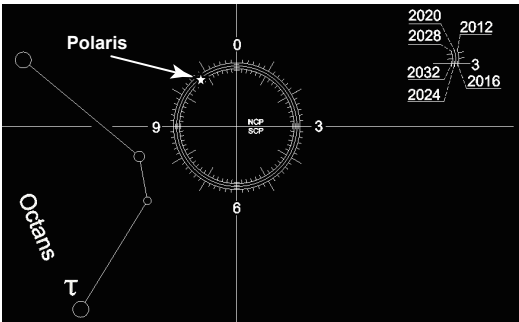

Fig 27
1. Locate both Polaris and Kochab in the sky near the North Celestial Pole. The relative position of Kochab to Polaris is an approximation of the orientation of Polaris in the **Polar Scope**. For example, if Kochab is at the 11 o'clock position of Polaris, then Polaris should also be placed at the 11 o'clock position on the reticle circle (See Fig 27).